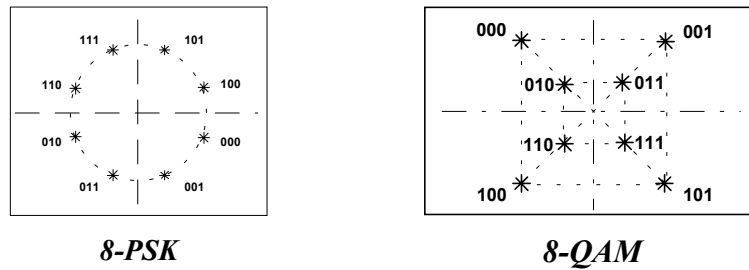

Figure 3: constellation diagrams
For example, the points could be in a circle - such as in m-PSK, or in a square grid, as in m-QAM. These constellations are illustrated below in Figure 3, for the case $m = 8$. In these cases the binary serial data stream has been encoded using frames of three bits.
- Q3 how many levels are there from each of the outputs of the M-LEVEL ENCODER module for an 8-PSK signal? If these cover the range ± 2.5 volts, specify the levels for each of the points in the constellation of Figure 3. Repeat for other constellations. Compare with measurements.*